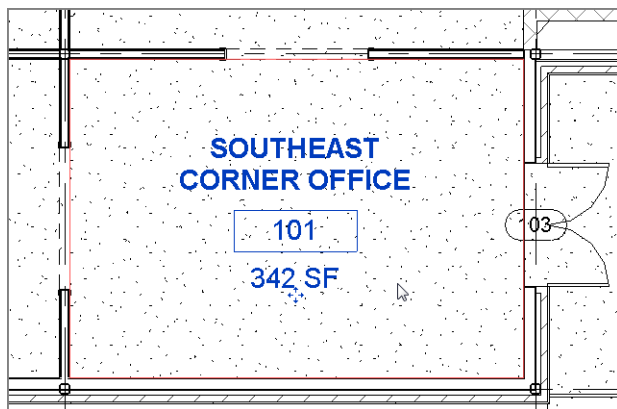

FIGURE 15.12: Change the type to Room Tag With Area.
3. In the Type Selector, select Room Tag With Area. The tag displays the area, as shown in Figure 15.12.